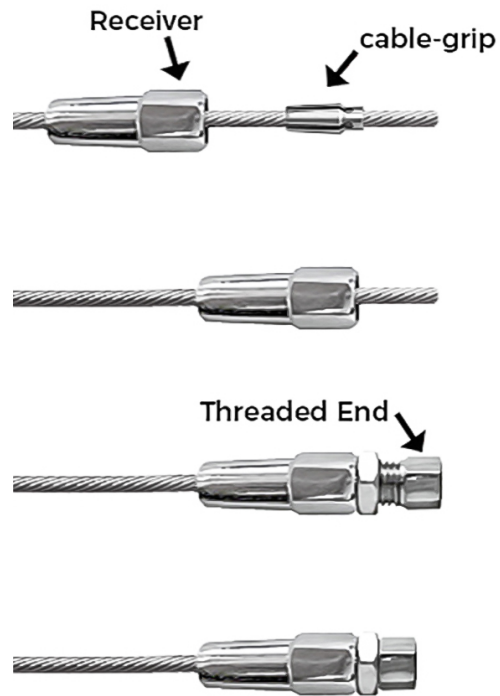

Fig 6
- b. Place cable-grip onto cable by spreading prongs apart and pushing cable through until it exits the tied end between $\frac{3}{8}$ " and $\frac{1}{2}$ ", but not more than $\frac{5}{8}$ " (Fig. 6)
- c. Slide receiver over cable-grip. (Fig. 6)
- d. Using 2 wrenches, one on receiver body and one on threaded end, tighten the fittings until they can no longer be tightened. (Fig. 6)